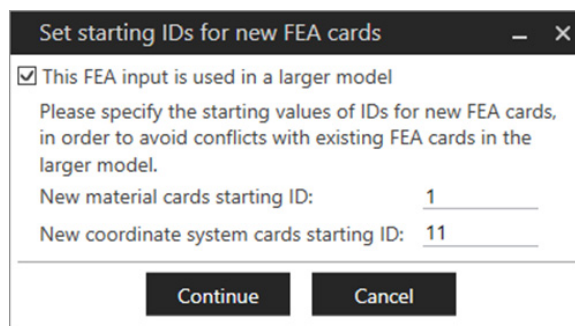

Figure 6-10 Specifying starting values for the material and coordinate system IDs.
- Include files (e.g. `\INPUT` commands) are not directly supported in the starting ANSYS input deck. However, it is possible to run the Digimat-RP workflow on a portion of a bigger model (e.g. an include file). In such case, Digimat cannot automatically determine the starting values for the IDs of the new material properties and coordinate system that need to be introduced in the model. This means that the user must manually specify them (see Figure 6-10), and make sure that they will not conflict with existing IDs in the whole model.